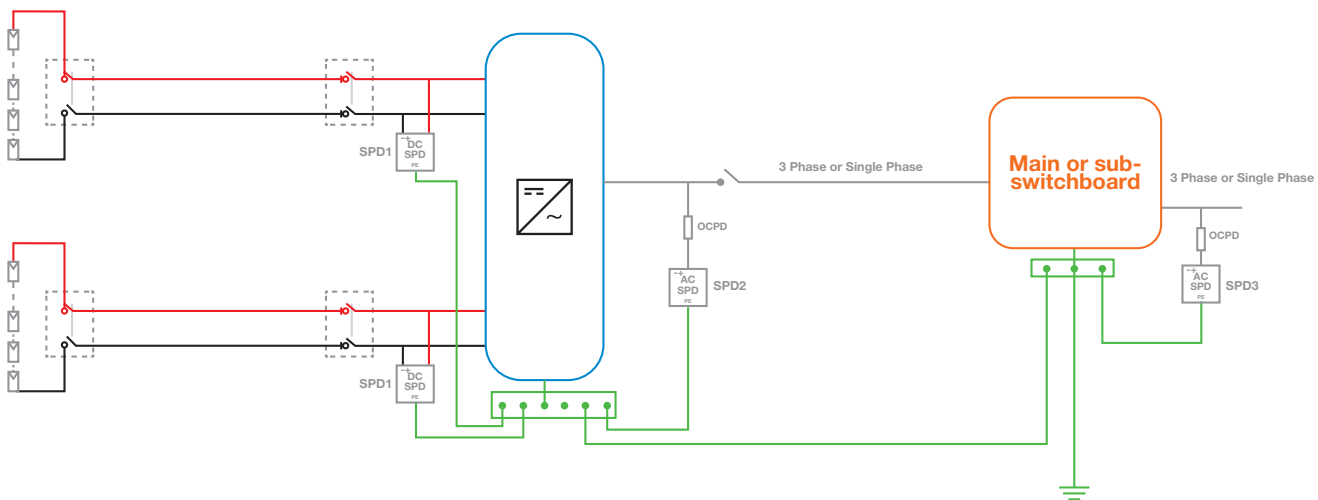

Figure 4. Electrical schematic for roof mounted panels with no building LPS
Protection in this case is required only against indirect lightning. Figure 4 below represents this as an electrical schematic.
4. The protective earths of the SPDs and the frame earth of the inverter must be bonded together and in turn connected to the main earth bar as in figure 4. 4mm² cable is suitable.
The following tables list the Novaris products that are most suitable for the applications as referenced in Figure 4.